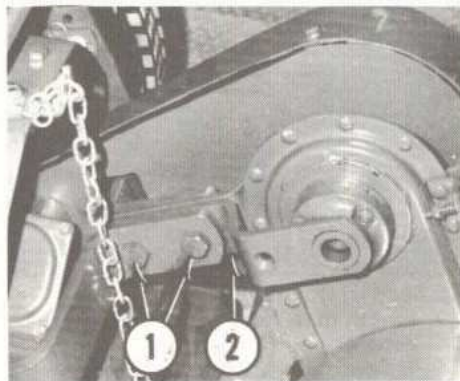
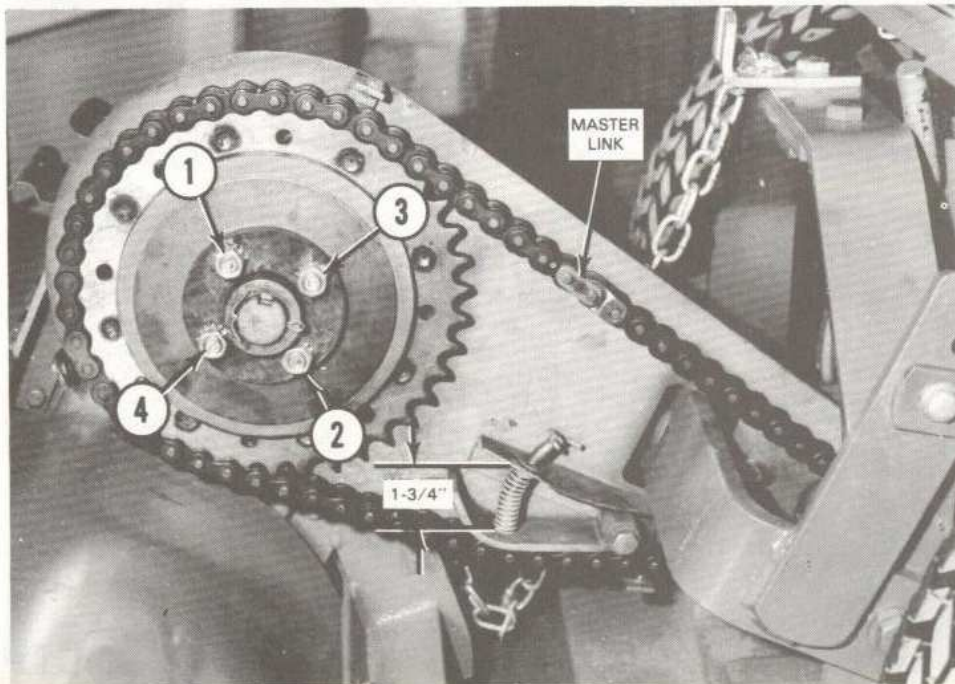

FIG. 33
FIG. 32
The external drive chain tension is properly adjusted when compressed spring length measures approximately 1-3/4", Fig. 32.
3. Loosen link arm pivot bolts (1), Fig. 33.
4. Move link arms rearward to increase chain tension. This can be done by inserting pry bar between link arms and adjoining members at location (2), Fig. 33. Check compression spring length, Fig. 32. Chain tension adjustment is correct when spring measures 1-3/4".
5. Remove spring lock on master link, Figs. 32 and 34. Remove chain from sprocket.
3. Rotate chain to position master link, as shown in Fig. 32.
3. Loosen nuts, Nos. 1, 2, 3 and 4, Fig. 32.
- a. Remove the four retaining nuts, Fig. 32.